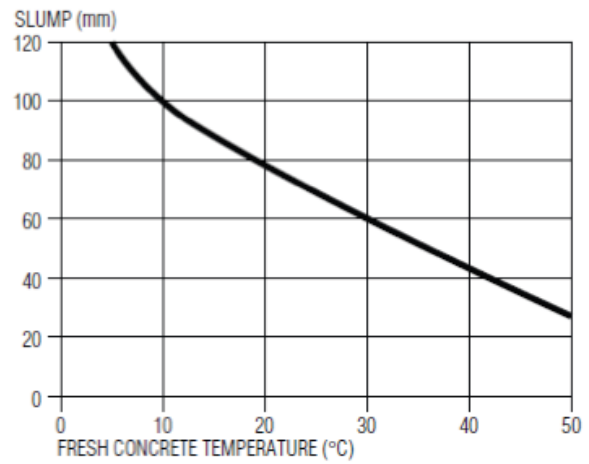

Figure 2: Decrease in workability of fresh concrete (as measured by slump), made at constant water content, as temperature increases
- **Workability and slump** Higher temperatures increase the rate of slump loss at the point of concrete placement and so reduce the workability (or slump) of the concrete at a given time unless actions are taken to correct this slump loss (See Figure 2). Adding more water to a batch of concrete to improve its workability decreases the concrete strength and increases the permeability, and ultimately affects the durability of the resulting hardened concrete.